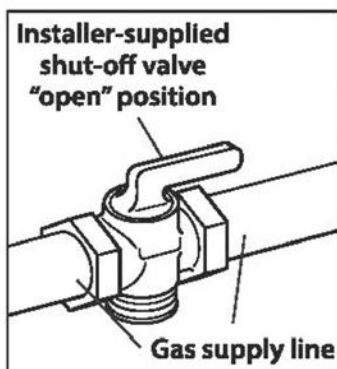

Fig. 16a Manual shut-off valve.
- A manual shut-off valve (supplied by the installer) must be installed in an accessible location in the gas line external to the appliance for the purpose of turning on or shutting off gas to the appliance (Fig.16a). (In Massachusetts such shut-off valves should be approved by the Board of State Examiners of Plumbers & Gas Fitters.) The shut-off valve must be located within 6 feet (1.8 meters) of the appliance it serves.